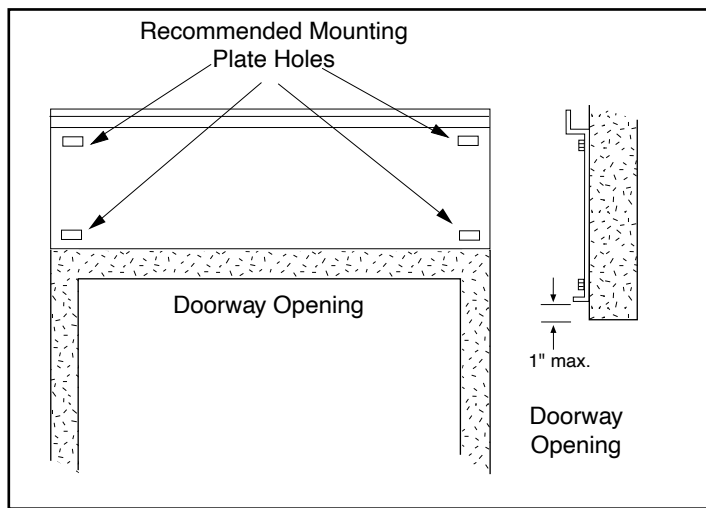

FIGURE 3 - Positioning of Mounting Plate
- A. Determine the location on the wall above the opening where the air curtain will be mounted. This location should center the unit over the opening and provide suitable mounting support. It is recommended to use at least four locations that correspond to the outer corners of the wall mounting plate. **See FIGURE 3.**